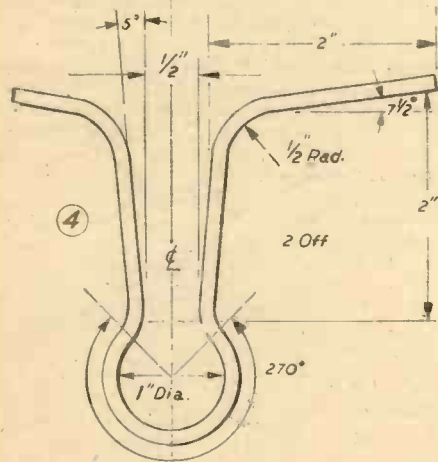

Fig. 3.—Details of the duralumin clamping strip.
This sub-assembly consists of item No. 4 and item No. 6. To produce item 4 (Fig. 3) we require 1/2in. duralumin, 1 1/2in. wide and 10in. long. After normalising, form round a 1in. mandrel into the shape of a long-legged U, and, while still held in the vice, drop in between the legs and on to the mandrel a 1/2in. steel plate and clamp tight with a G clamp. Now with a cross-peen hammer force the material still farther round the mandrel till it is in contact for 270 deg. This 3/4 encirclement serves a definite purpose so it must be attained. The legs of the U must now be formed round the 1in. bar to form the wings, set at approximately 7 1/2 deg.